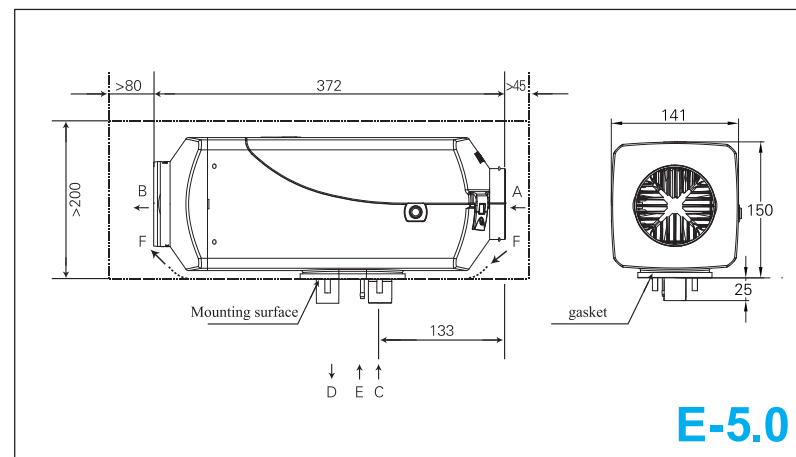
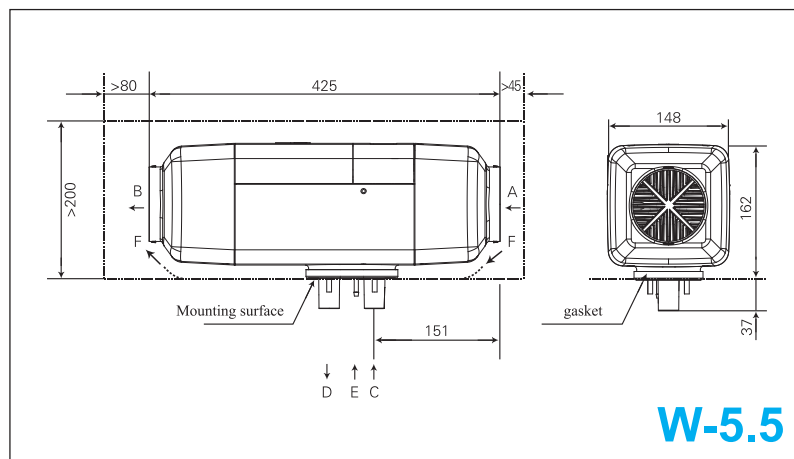

Fig. 12 (E)
Fig. 11 (W)
4.2.2 - To ensure heating air flow and easy installation and maintenance of the main equipment, enough space must be provided for installation. Please refer to the scope of double dot line for the space for installation, as shown in Fig.11 and Fig.12 and Fig. 13.
Make sure that there are no Interference objects in the gap between the bottom surface of the main equipment and the mounting surface of the vehicle.(Fig. 11-F and Fig.12-F and Fig. 13-F).
4.2.3 - Good sealing is necessary between the main equipment and the installation face on the vehicle. A special gasket (as shown in Fig. 11 and Fig. 12) supplied by the manufacturer must be padded for installation. The installation surface must be even enough. Its parts at the installation bases of the main equipment shall have unevenness less than 1 mm. After drilling installation holes, evenness must be improved according to this requirement, when installation, please rotate the four M6 nuts provided by the manufacturer tightly, The torque for tightening shall be 6Nm+1Nm. The position of installation holes is shown in the Fig. 13.